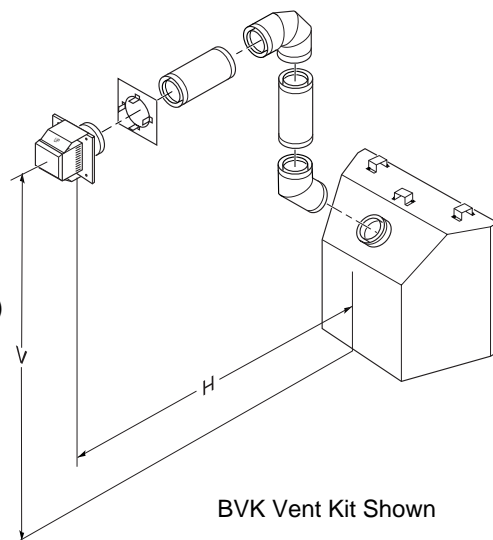

Figure 18 - Horizontal Termination Configuration for Rigid Venting Using One 90° Elbow
See information in Figure 18 for Vertical(V) and Horizontal(H) maximums and minimums. The same amounts apply for flexible venting.